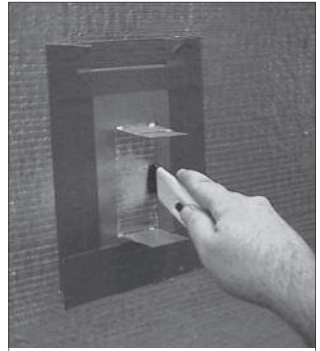

Figure 7
- Using a knife or blade, cut out a rectangle opening in the duct using the mounting plate as a template (Figure 7).